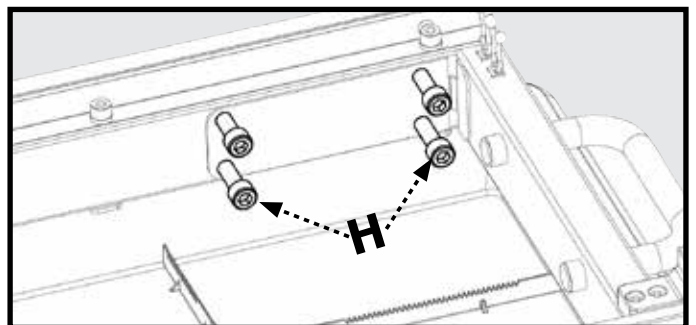

Figure 7
2. Fasten the Saw Arm Assembly by using the four M10 X 60 Hex Head Screws (H1) and the 8mm Allen Wrench (H2) as shown in Figure 7.